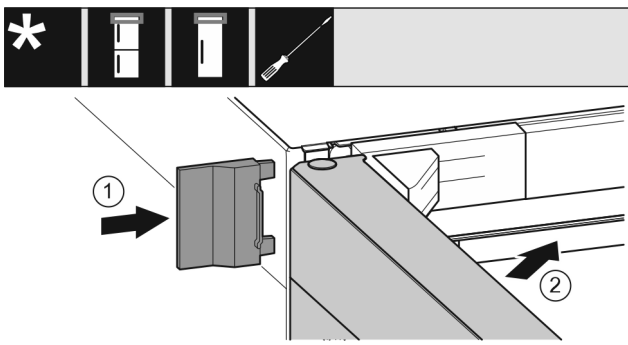

Fig. 18
- ▶ Slide on the outer cover. *Fig. 18 (1)*
- ▶ Close the upper door. *Fig. 18 (2)*